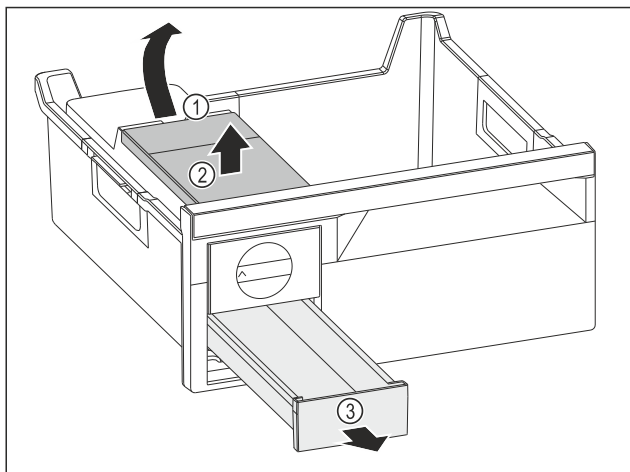

Fig. 211
- Removing the water tank: Lift the water tank by the recess Fig. 211 (1).
- Remove the water tank Fig. 211 (2) upwards.
- Remove the ice cube drawer Fig. 211 (3) to the front.